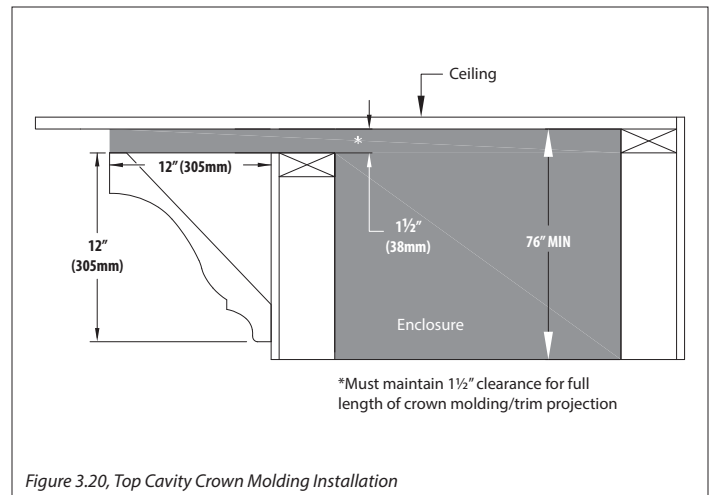

Figure 3.20, Top Cavity Crown Molding Installation
- Figure 3.20 shows the installation of crown molding or similar trim work that goes up to the edge of the air discharge opening. This molding or trim cannot decrease the minimum opening requirement.